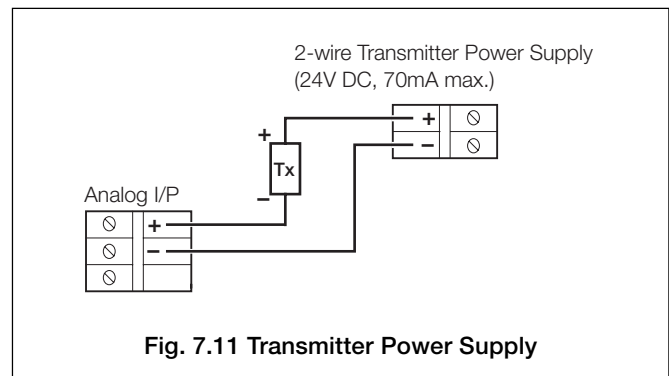

Fig. 7.11 Transmitter Power Supply
7.5.6 Transmitter Power Supply – Fig. 7.11